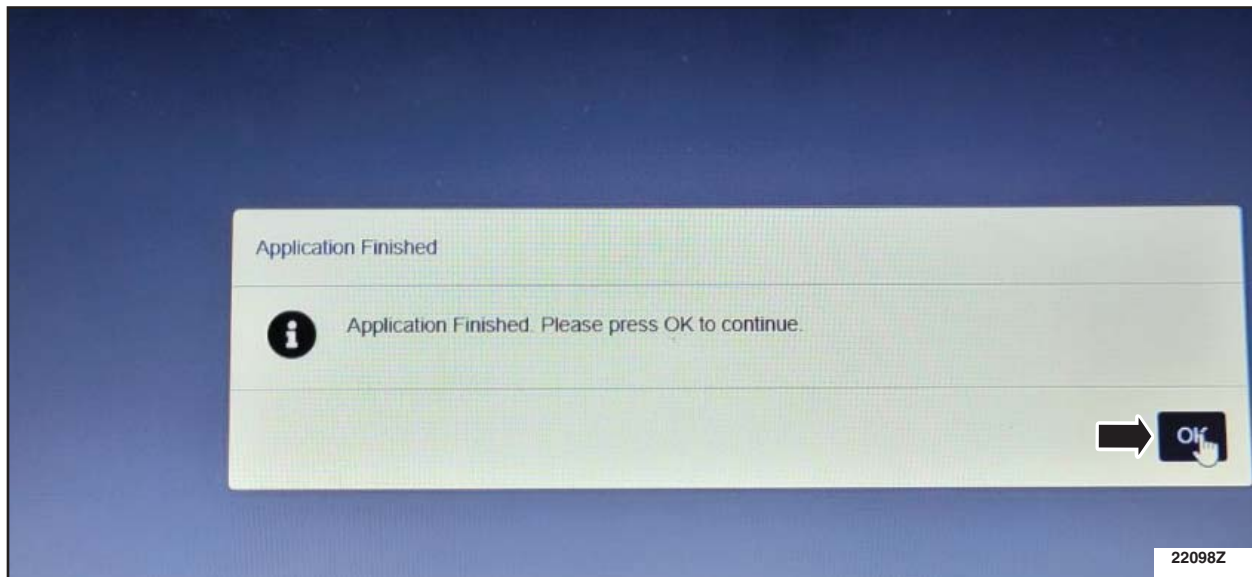

FIGURE 23
27. Click Ok on the FDRS screen when the application finished message appears. See Figure 23.